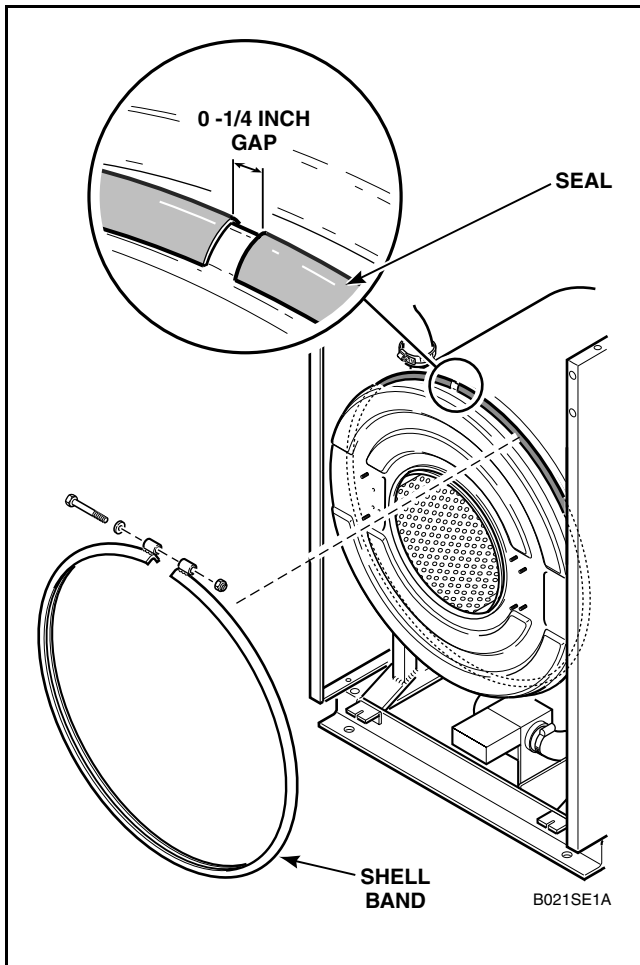

Figure 23
- l. Disassemble and remove shell front band, refer to *Figure 23*.